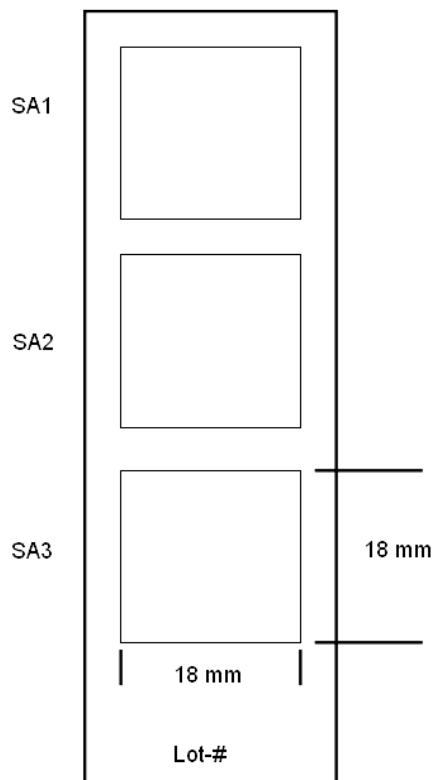

Figure 2: schematic layout of peptide microarray (SA=subarray)
A schematic layout of the peptide microarray is shown in Figure 2.
As shown in Figure 2 the peptide array is printed in three identical subarrays (SA). This enables efficient intra-chip-reproducibility tests using scatter plots or correlation functions.